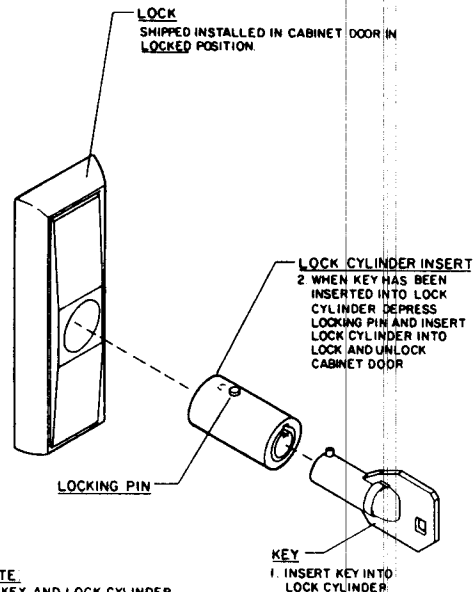

Figure 1a.
2. Insert lock cylinder (see fig. 1a). Open door. Remove internal packing and supplies.